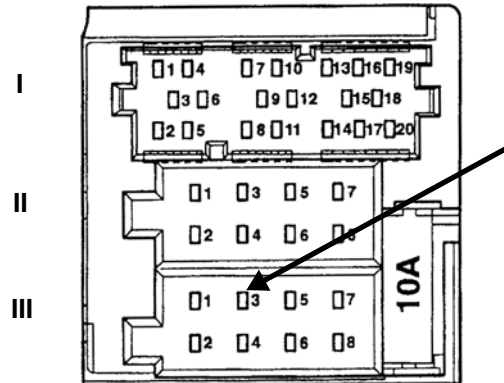

Figure B-2 K-Line on the radio wiring harness black 8-pin multi-connector III-T8
2. Make sure that the K-Line in the radio wiring harness (black 8-pin multi-connector III-T8) has been removed from the connector and taped back to the harness (Figure B-2).